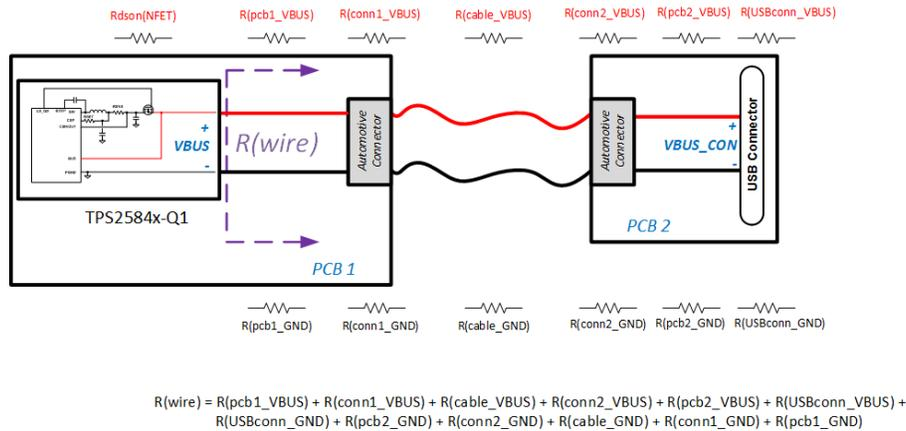

图 47. Automotive USB Resistances
When a load draws current through a long or thin wire, there is an IR drop that reduces the voltage delivered to the load. Cable drop compensation linearly increases the voltage at the CSN/OUT pin of TPS2584x-Q1 as load current increases with the objective of maintaining V_{BUS_CON} (the bus voltage at the USB connector) at 5 V, regardless of load conditions. Most portable devices charge at maximum current when 5 V is present at the USB connector. 图 47 provides an example of resistor drops encountered when designing an automotive USB system with a remote USB connector location.
- Cable compensation: Total resistance including cable resistance, contact resistance of connectors, TPS2584x-Q1 current sense resistor and external NFET $r_{DS(on)}$ (if used). Refer to 图 47 for examples of resistance in an automotive application.